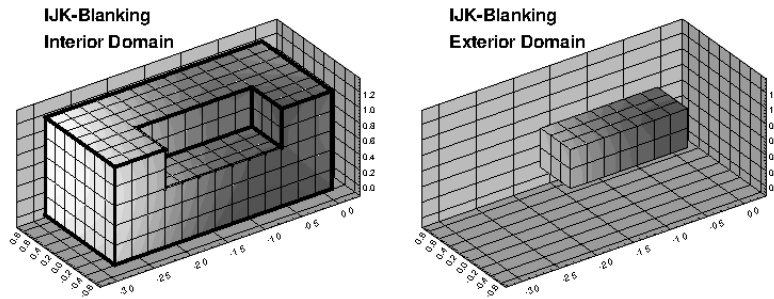

Figure 19-14. IJK Blanking with Interior domain (left) and Exterior domain (right).
- **Interior** - Cells within the specified index ranges are blanked. Those outside are plotted. This creates a "hole" in the zone. The left side of Figure 19-14 shows an ordered zone with IJK Blanking with Interior domain.
- **Exterior** - Cells outside the specified index ranges are blanked. Those inside are plotted. Exterior plots a sub-zone of the zone. The right side of Figure 19-14 shows an ordered zone with IJK Blanking with Exterior domain.